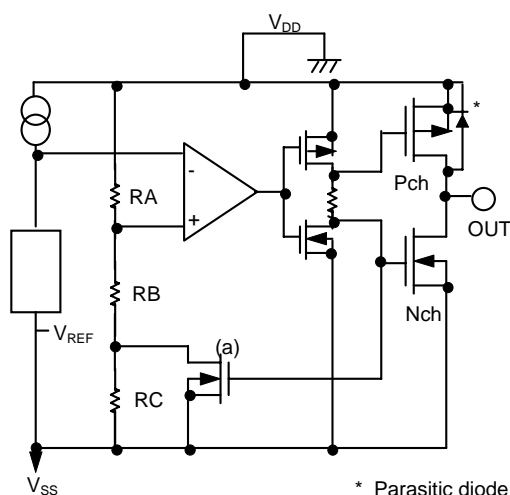
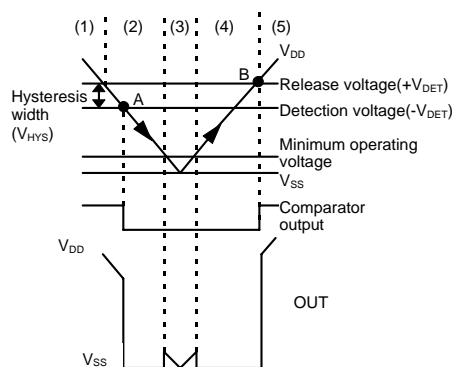

Figure 13
Figure 14
Hysteresis width is the voltage difference between a device's detection voltage and its release voltage (see Figure 14. $V_{HYS} = B - A$). By giving a device hysteresis, erroneous toggling of the output due to noise at the input is avoided.
- (1) When power supply voltage V_{DD} is greater than the release voltage $+V_{DET}$, the Nch transistor is OFF and the Pch transistor ON, causing V_{DD} (high) to appear at the output. With the Nch transistor of Figure 13 (a) off, the comparator input voltage is $(RB+RC)/(RA+RB+RC) \times V_{DD}$.
- (2) When power supply voltage V_{DD} goes below $+V_{DET}$, the output continues to maintain the power supply voltage level, as long as V_{DD} remains above the detection voltage $-V_{DET}$. When V_{DD} does fall below $-V_{DET}$ (A in Figure 14), the Nch transistor goes ON, the Pch transistor goes OFF, and V_{SS} appears at the output. With the Nch transistor of Figure 13 (a) ON, the comparator input voltage is $RB/(RA+RB) \times V_{DD}$.
- (3) When V_{DD} falls below the minimum operating voltage, the output becomes undefined. However, output will revert to V_{DD} if a pull-up has been employed.
- (4) V_{SS} will again be output when V_{DD} rises above the minimum operating voltage. V_{SS} will continue to be output even when V_{DD} surpasses $-V_{DET}$, as long as it does not exceed the release voltage $+V_{DET}$.
- (5) When V_{DD} rises above $+V_{DET}$ (B in Figure 14), the Nch transistor goes OFF, the Pch transistor goes ON, and V_{DD} appears at the output.